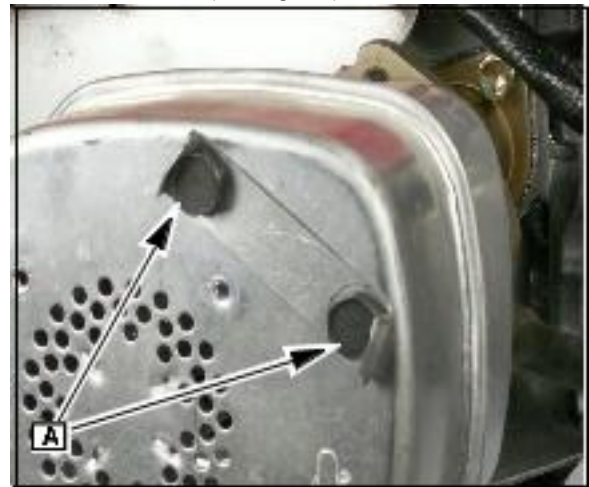

Fig. 32
Install muffler with new gasket (Fig. 32).
6. Bend tabs ([A] Fig. 32) to secure the bolts.